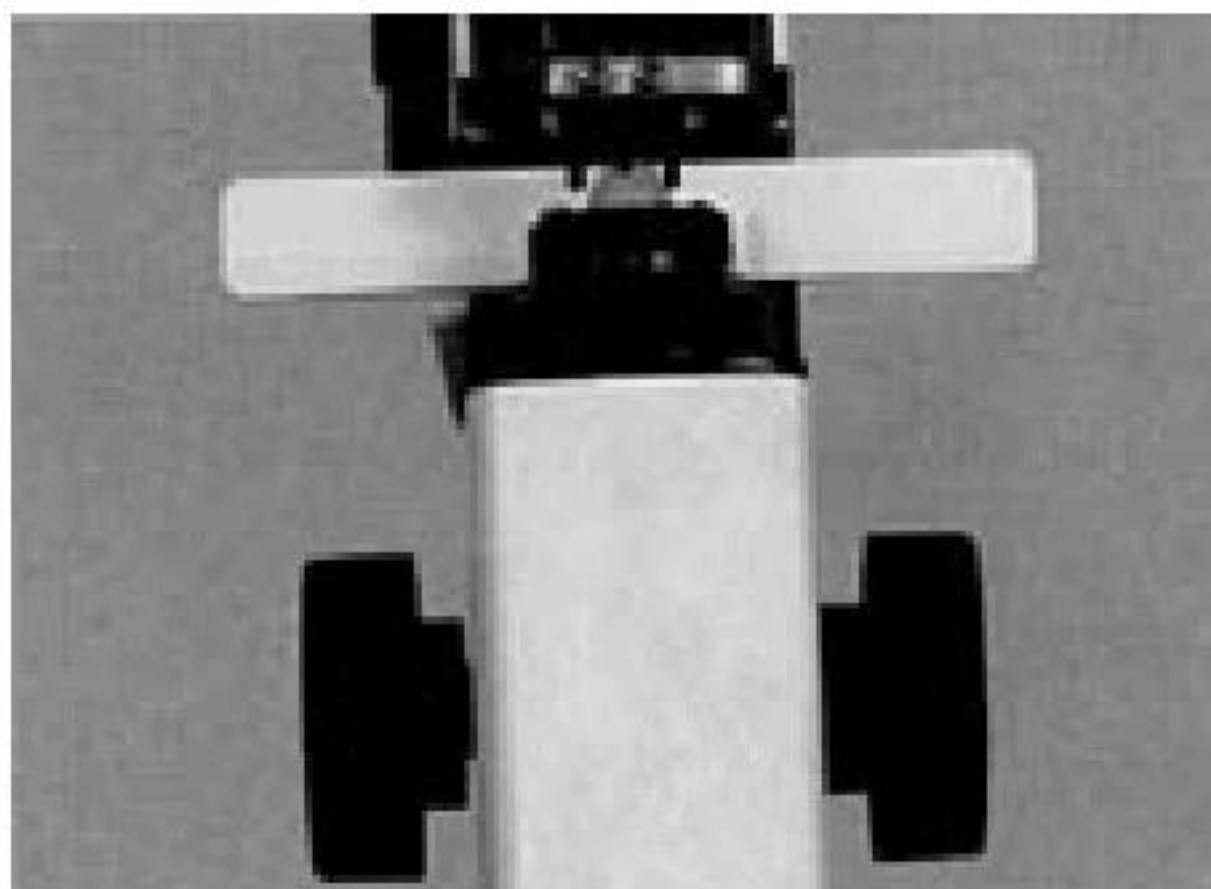

Fig.11
3.9 Diopter measuring handwheel (Fig.11)